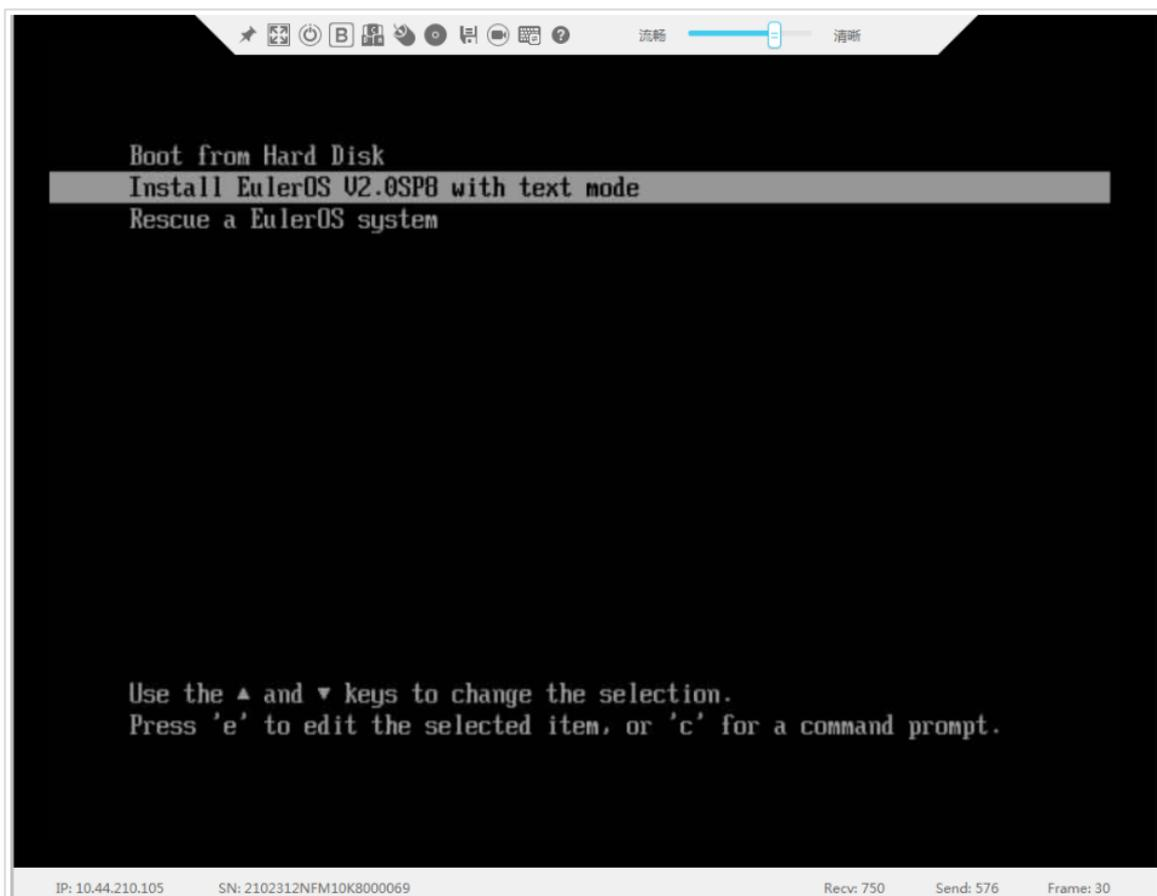

Figure 4-12 Boot Options
Step 3 After the server is restarted, the Boot Options screen is displayed, as shown in Figure 4-12. Select Install EulerOS V2.0SPXX and press Enter.